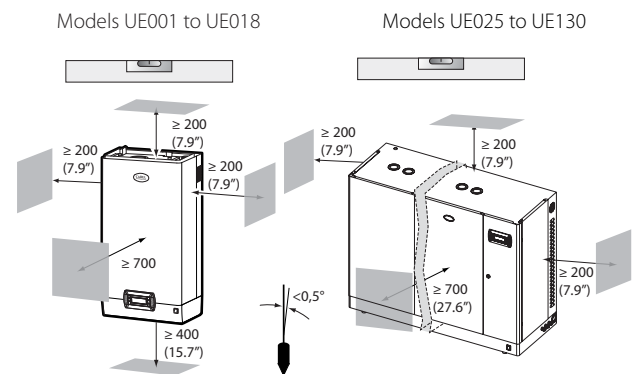

Fig. 1.d
- make sure the humidifier is level, allowing the minimum clearances (see Fig. 1.d) for maintenance operations.
Fit the humidifier on the wall using the support bracket and the screw kit supplied (for the dimensions in mm see Fig. 1.d).